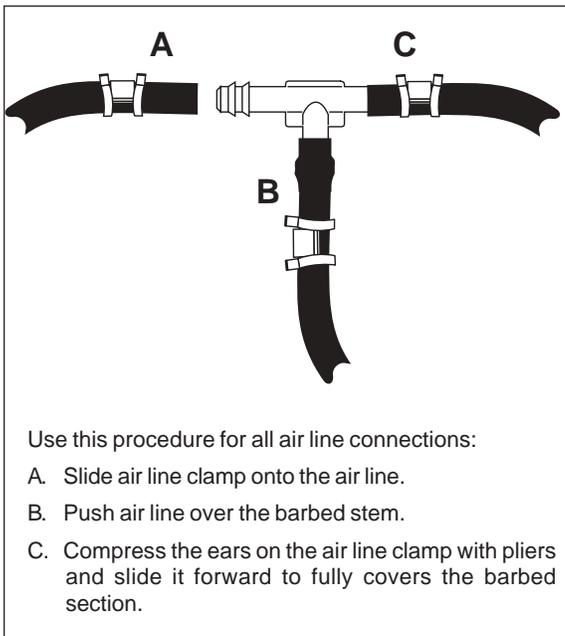

Figure 3
- With pliers slide the air line clamp forward until it fully covers the barbed section. Repeat for other leg of tee (Figure 3).